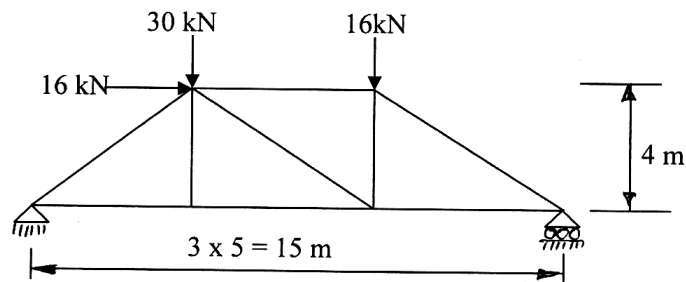

Fig.Q.12(a)
12. (a) Analyze the simply supported truss shown in Fig.Q.12(a) by method of joints.